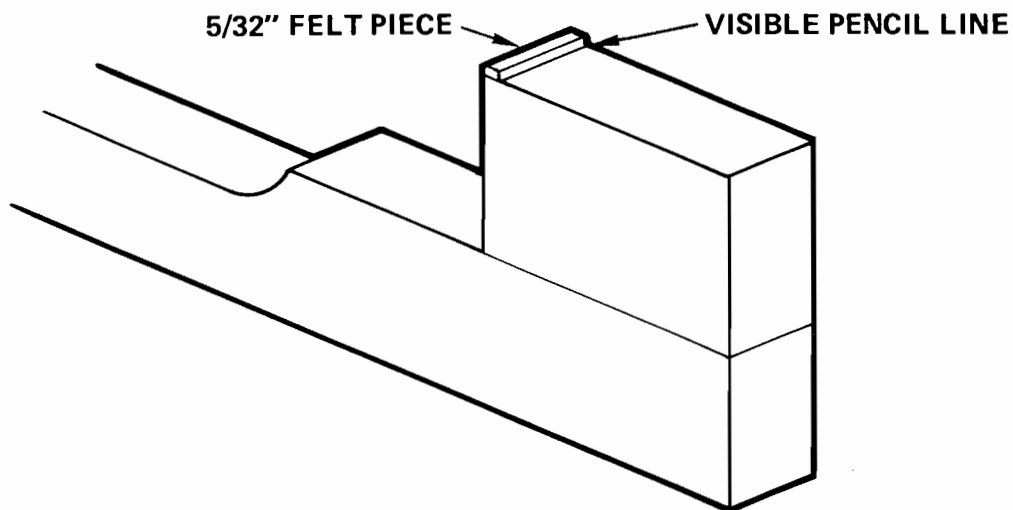

Figure 6-5. Key Pedestal —  $5/32''$  Felt Piece Mounted
11. One by one, remove  $5/32''$  (3.969mm) felt pieces from the paper backing and place them on the Key Pedestal in front of (closest to the Key Cap) the scribed pencil line so that the pencil line is visible after the  $5/32''$  (3.969mm) Felt Piece is securely mounted (Figure 6-5).